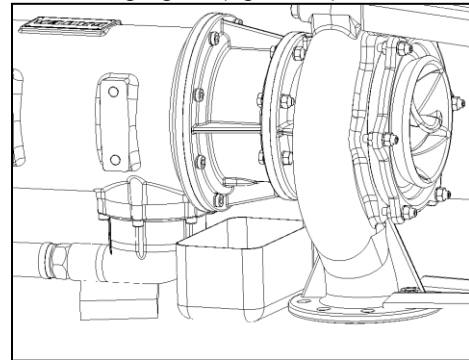

Figure 8
1. Unscrew the screw plug (figure 8)